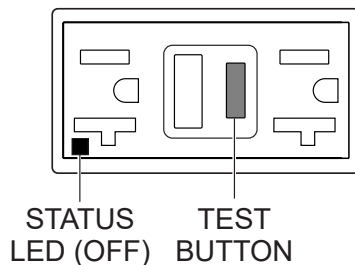

Figure 80. GFCI Receptacle (OFF)
4. Press the **TEST** button (Figure 80) on the GFCI receptacle and verify that the status LED turns **OFF**.